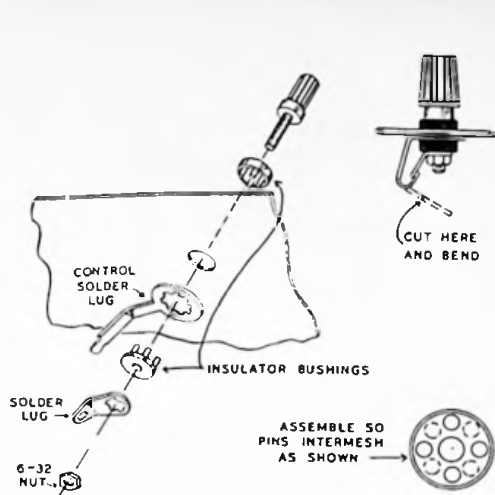

Figure 6
- () Install the binding posts. Use binding post base, insulator bushings, solder lug and 6-32 nut. See Figure 6. On the one nearest the edge of the panel, include a larger control solder lug between the bushing and the inside of the panel.